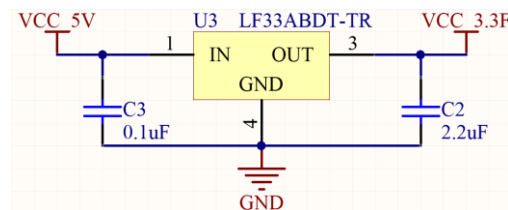

Figure 2 A schematic example
- The second thing that you will need to turn in is as complete of a schematic as your group can generate BOTH as pictures/PDF and the schematic file from your CAD tools of choice. See Figure 2 for a partial example of a schematic that could be turned in (Your schematic must be drawn with a CAD program, such as [1-4]). The values for resistors, capacitors, or inductors are NOT needed for the schematic. Please separate out the different parts of the board as separate schematics rather than submitting one huge schematic of all components.